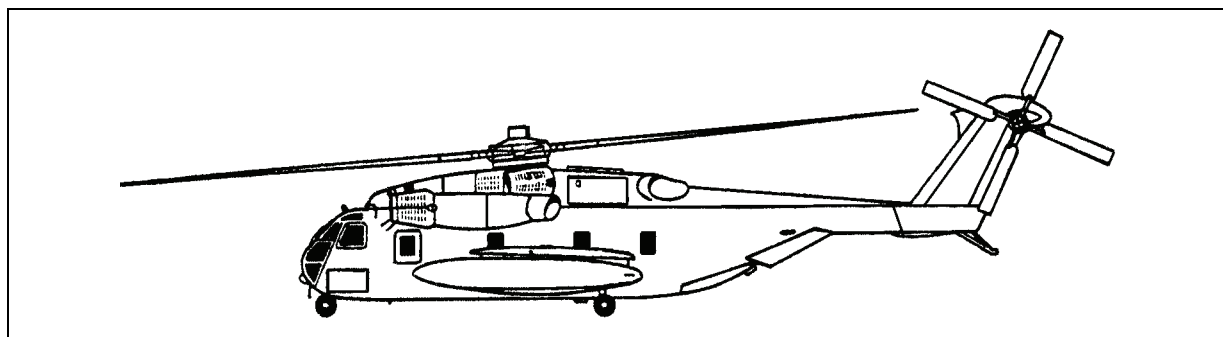

Figure 2-18. H-53E Super Stallion
- **H-53E.** The triple engine H-53E Super Stallion (Figure 2-18) is a growth variant of the CH-53D. Its primary mission is either vertical on board delivery, airborne mine countermeasures, or aerial delivery of supplies and equipment.